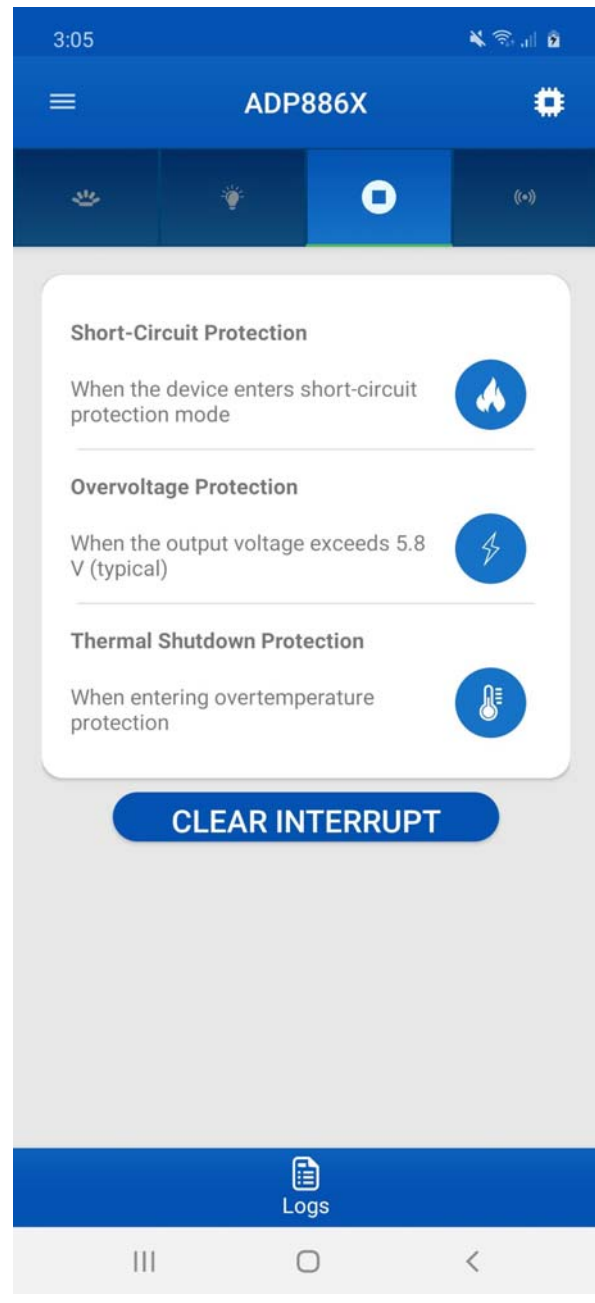

Figure 22. **Interrupt** Tab for the Android App
8. In the **Interrupt** main tab, users can enable device protection as well as clearing interrupts when triggered (see Figure 22).